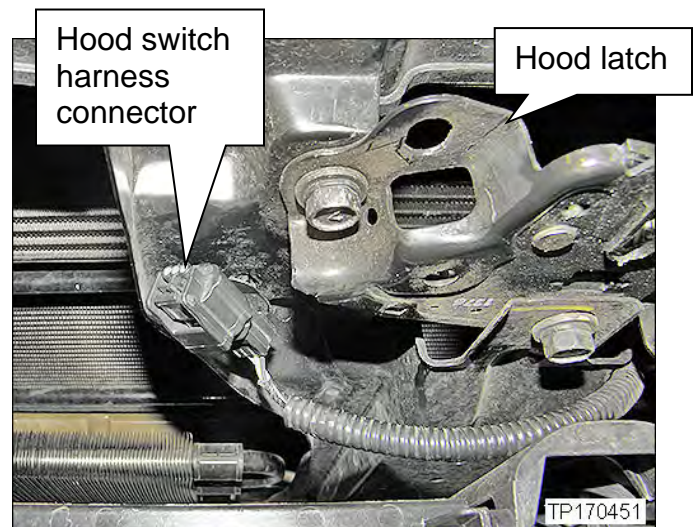

Figure 2
2. Locate the hood switch harness connector - connector E94 (see Figure 2).